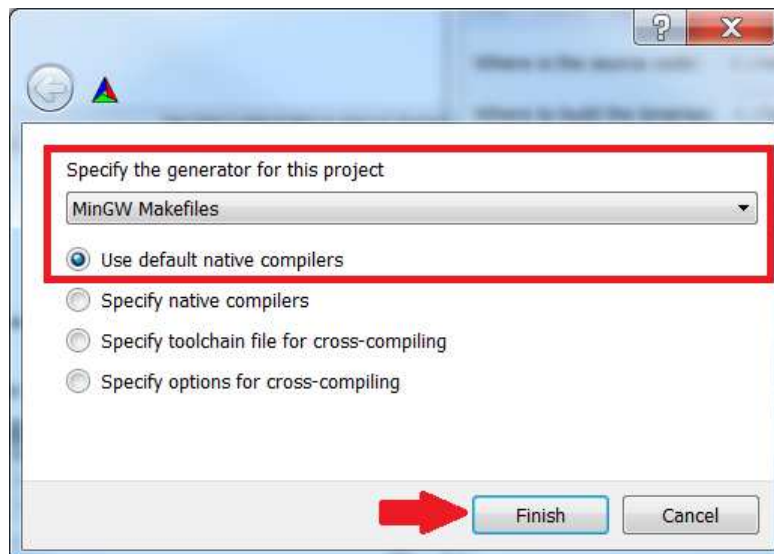

Figure 28. CMake Configure Generators
- Select the “Use default native compilers” radio button and then select "Finish" as shown in Figure 28. CMake will now configure the OpenCV files. It should configure with no errors.